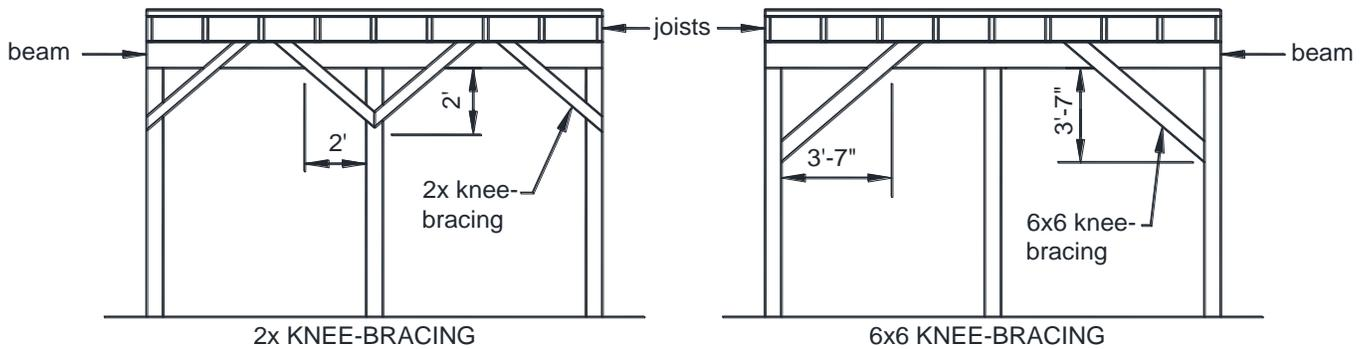

FIGURE 29: METHOD 2 - KNEE-BRACING AT BEAM-POST LOCATIONS
- Decks shall have 2x knee-bracing installed at each post-beam location or 6x6 knee-bracing at end posts and both sides of every other interior post in accordance with FIGURE 29.